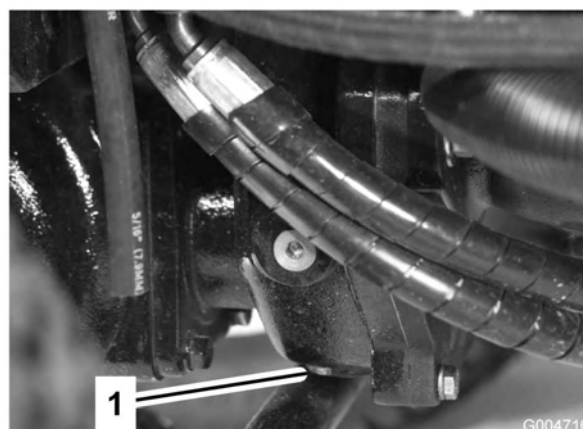

Figure 60
5. Clean the area around the drain plug on the bottom of the gear box (Figure 60).